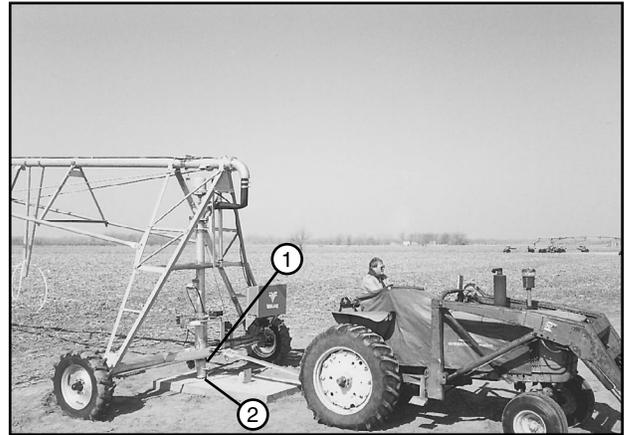

Figure 39-1 1. Riser Pipe
10. Carefully align the riser pipe with the anchor pipe as the pivot approaches the pivot pad. Remember, you cannot back the center pivot up. See figure 39-1.